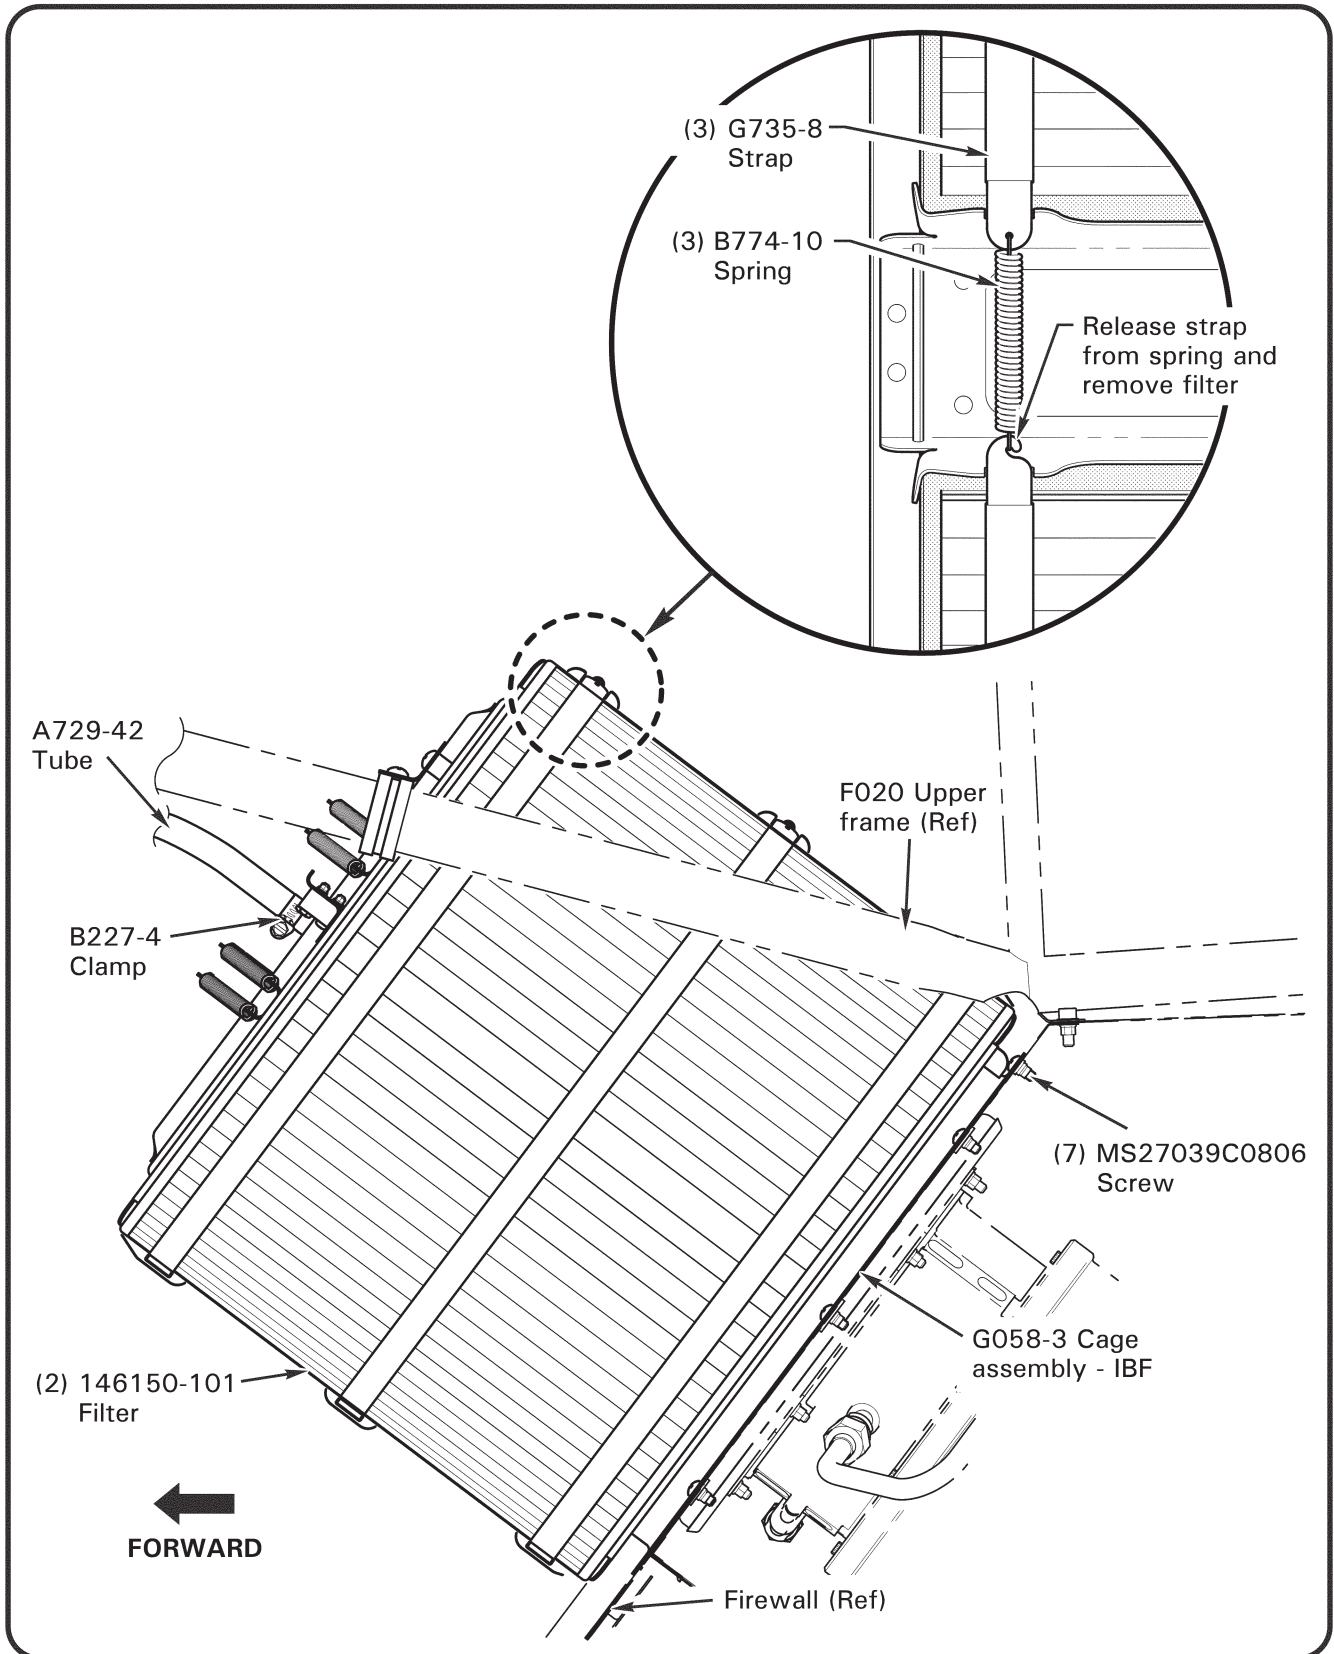

FIGURE 2
6. Refer to Figure 2. Release G735-8 straps (hook-end) from B774-10 springs and remove 146150-101 filters from cage assembly, if installed. Service filters per MM § 71-21 D steps 4 thru 6.
7. Refer to Figure 2. Remove protective barrier from engine inlet. Install cage assembly to firewall using (7) MS27039C0806 screws as shown; verify security.
10. Using cloth dampened with acetone, clean indicated upper frame tubes for protective tape installation. Install (2) A701-5-1.5 tape on inboard side of left-side and right-side frame tubes, aligning center lines of tape over closest forward edge of [installed] filters. Install angle on cage using retained screws and spacers; verify security. Secure clamps to angle using hardware as shown, repositioning clamps as necessary to minimize preload on angle; verify security and clamps cover edge of tape.
11. Refer to Figure 2. Insert 146150-101 filter in G058-3 cage assembly brackets. Install second filter; verify filters are properly seated. Hook G735-8 strap to B774-10 spring, 3 places; verify security.